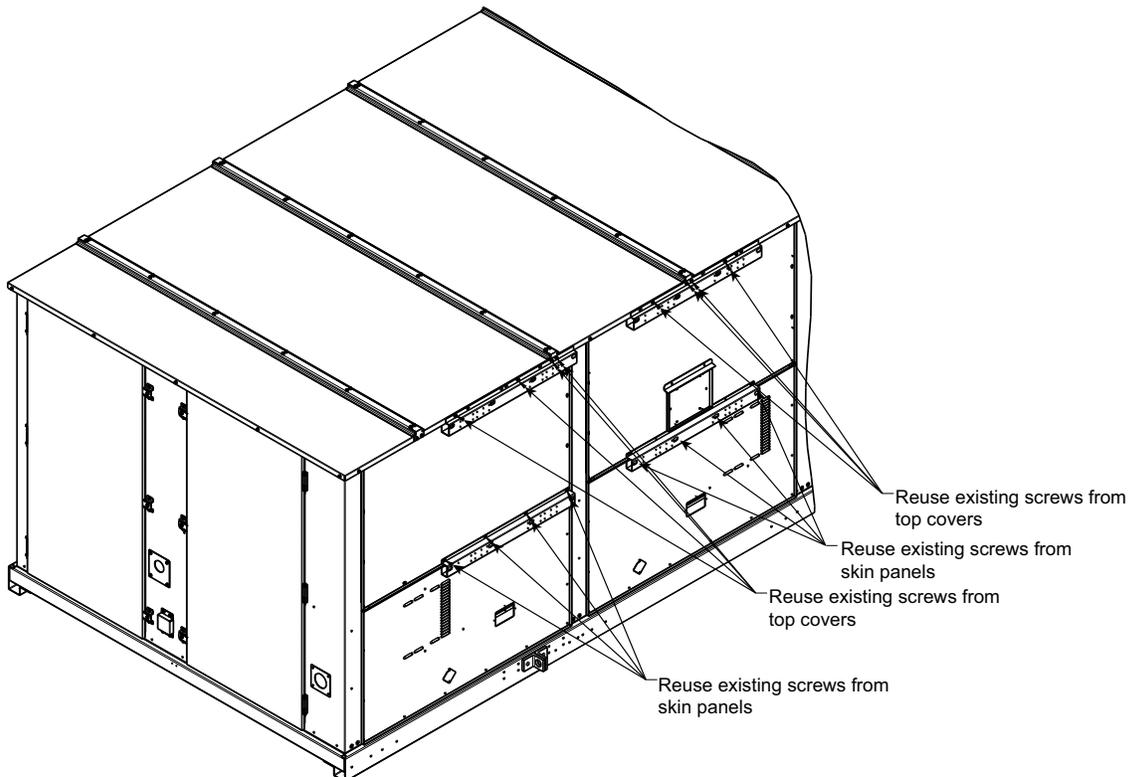
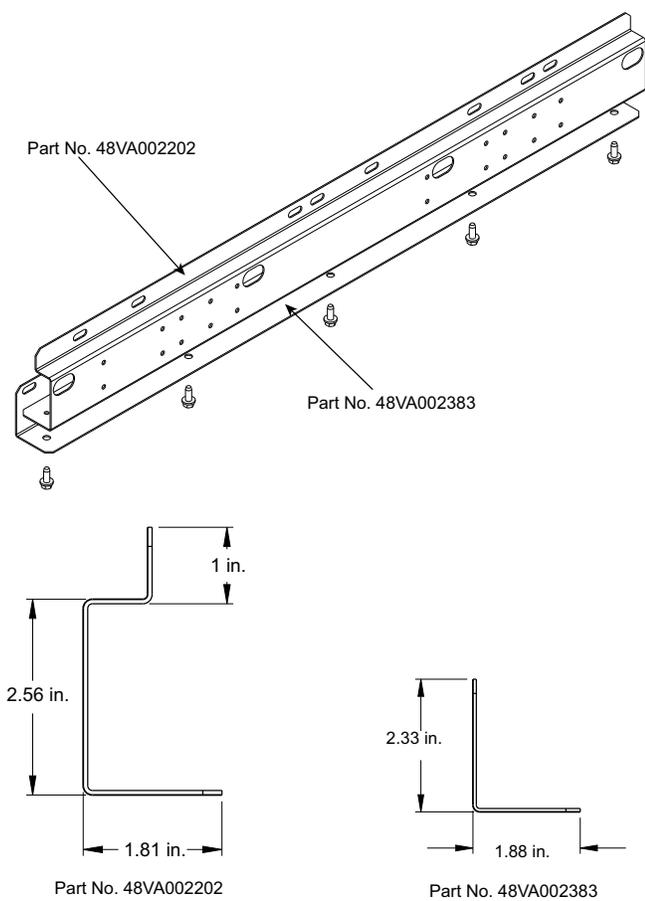

Fig. 1 — Flue Vent Extension Mounting Position
Fig. 3 — Upper Mounting Brackets and Dimensions
1. Remove screws from top cover panel and middle skin panel of the unit. See Fig. 1 and 2 for screw locations. Save screws for later use.
2. Assemble upper mounting brackets (part no. 48VA002202 and 48VA002383) and lower mounting brackets (part no. 48VA002200 and 48VA002384). See Fig. 3 and 4 for mounting bracket assembly and locations. Install mounting brackets to the units by reusing the existing screws. Each flue stack uses 2 brackets. See Fig. 1 and 2 for mounting positions.